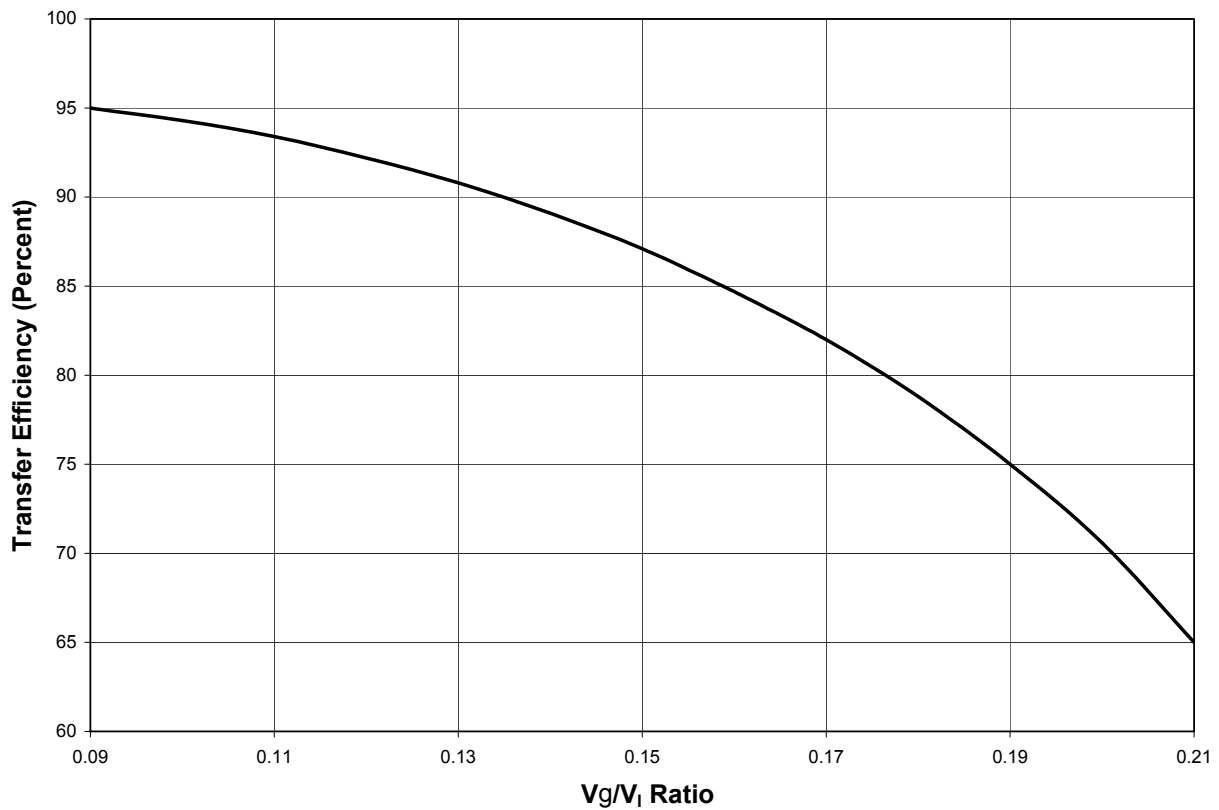

Figure A.1 – Side Stream System Transfer Efficiency
- Figure A.1 shows how transfer efficiency may vary for  $V_g/V_l$  ratios between 0.1 and 0.2 for a typical side stream system.